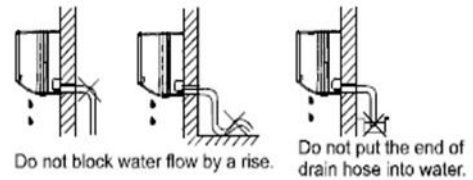

Figure 6
1. Run the drain hose sloping downward. Do not install the drain hose as illustrated in figure 6